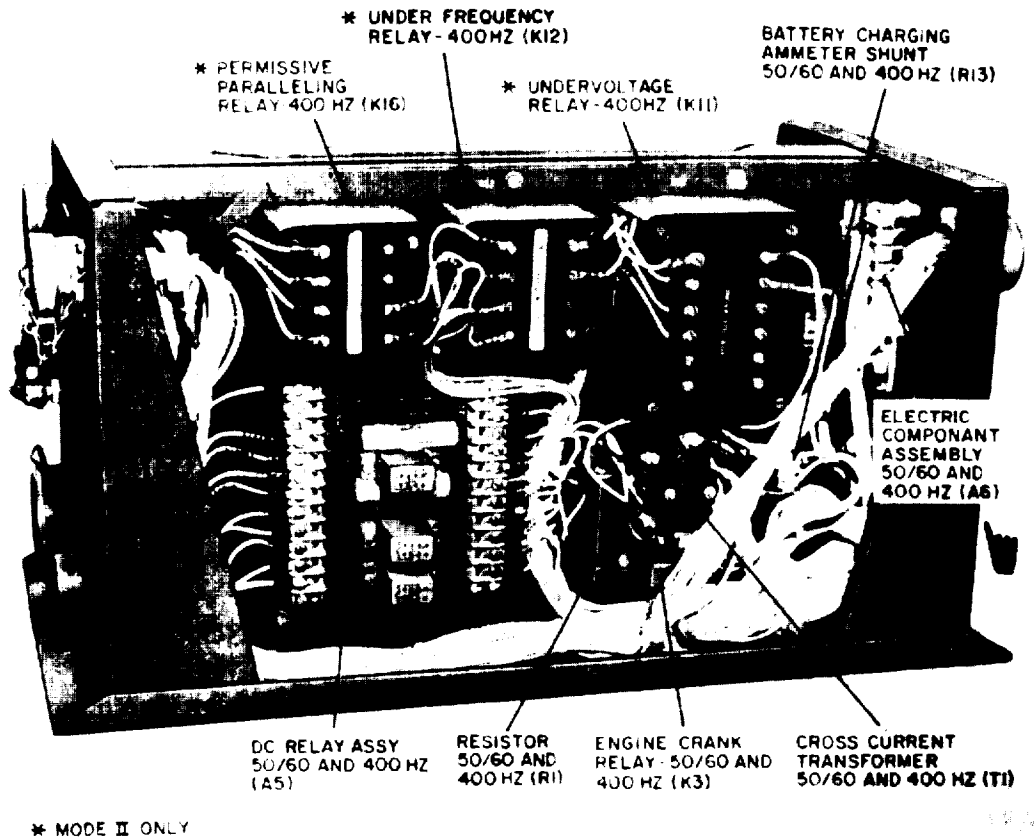

Figure 6-22. Mode I and mode II relay box assembly, cover removed
b. Removal. Refer to figure 6-22 and tag, then disconnect wiring to the DC relay terminal board. Remove the four nuts securing the relay in position.
6-94. INSTALLATION. Refer to figure 6-22 and install the DC relay assembly. Secure the assembly in position with four nuts, then refer to figure 1-15 and reconnect wiring to the relay terminal board. Replace mode I relay box cover.
6-98. DISASSEMBLY, Refer to figures 6-22 and 6-26, and disassemble the mode I relay box assembly in the order of index numbers assigned. Pay particular attention to the following.